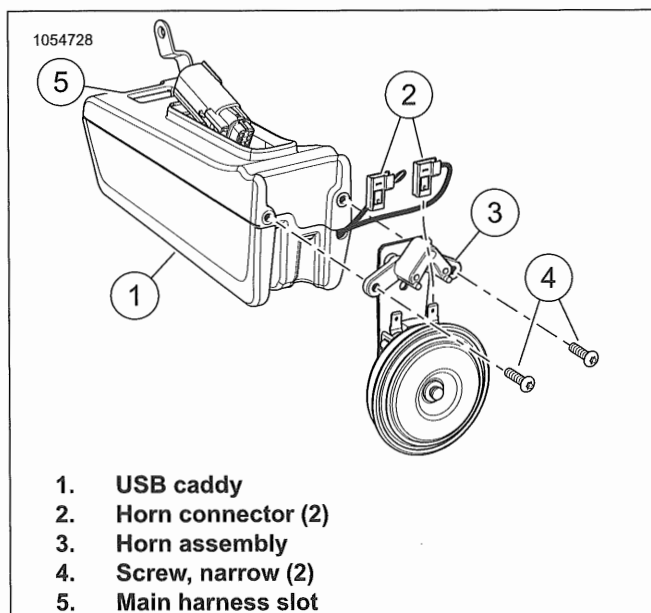

Figure 7-148. USB Caddy Horn Assembly
- a. See Figure 7-148. Verify main harness tab is installed into main harness slot (5) on USB caddy.